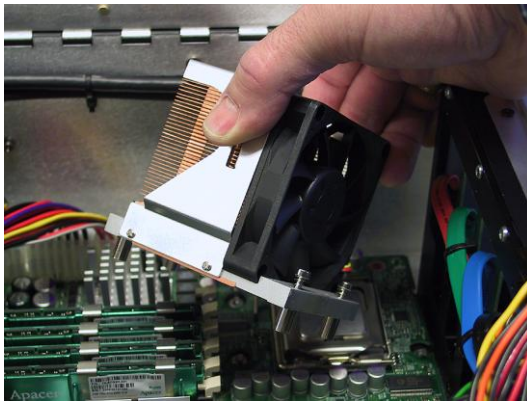

Figure 4-88
- 5) Figures 4-88 and 4-89 illustrate the removal of the second CPU Fan Assembly.